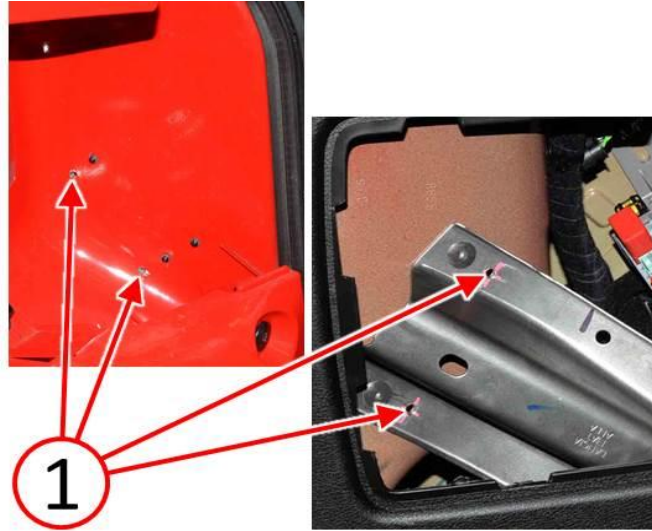

Fig. 4 Drill Two Rivet Holes Through Each Support Bracket
4. Using a drill and a 5 mm drill bit, drill 2 new holes (1) through each support bracket and tail lamp bucket at the previously marked locations (Fig. 4). Perform this step for both the right and left rear quarter trim panel support brackets.
5. Remove all burrs from the holes (1) and clean away any metal shavings from vehicle interior and from the tail lamp bucket (Fig. 4). Perform this step for both the right and left rear quarter trim panel support brackets.